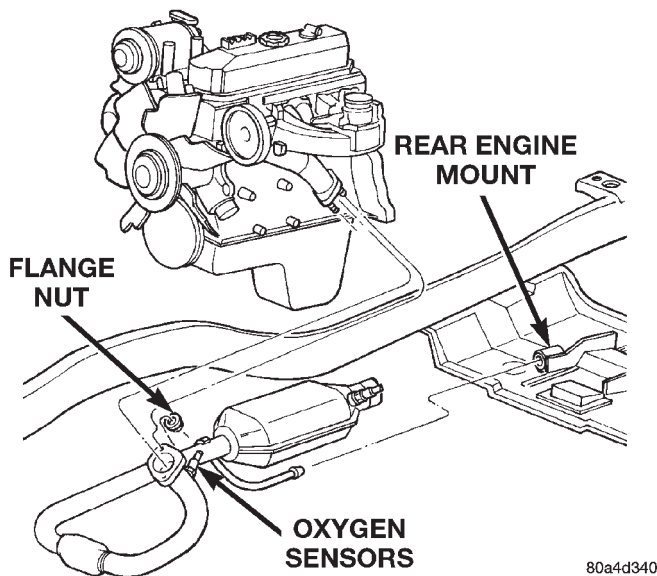
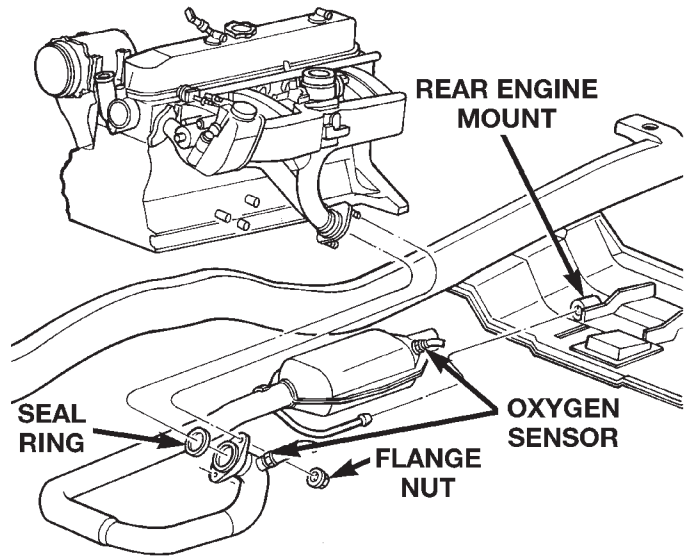

Fig. 3 Exhaust Pipe with Catalytic Converter—2.5 L Engine
Fig. 4 Exhaust Pipe with Catalytic Converter—4.0 L Engine
- (1) Raise and support the vehicle.
- (2) Saturate the studs and nuts with heat valve lubricant. Allow 5 minutes for penetration (Fig. 3) (Fig. 4).
- (3) Remove the oxygen sensors from the exhaust pipe and the catalytic converter (Fig. 3) (Fig. 4).
- (4) Disconnect the exhaust pipe from the engine exhaust manifold. Discard the seal (4.0L engine, only) (Fig. 4).
- (5) Support the transmission and remove the rear crossmember.
- (6) Remove the clamp from the catalytic converter and muffler connection.
- (7) Heat the catalytic converter and muffler connection with an oxyacetylene torch until the metal becomes cherry red.